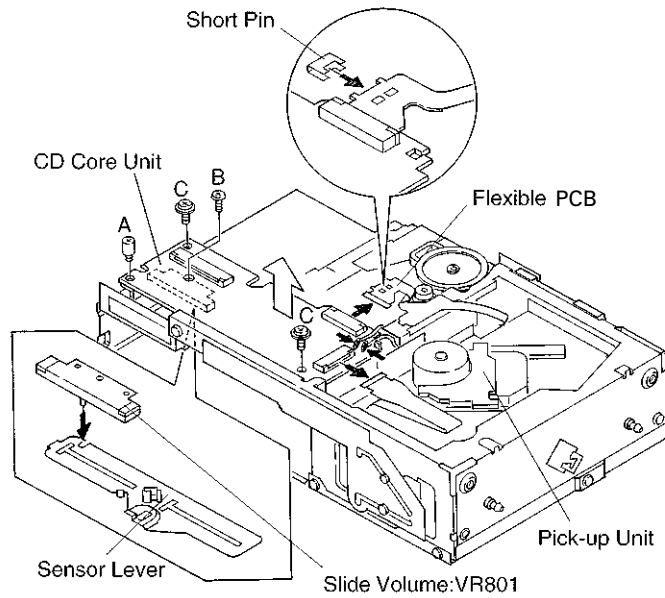

Fig. 5
1. Attach the Short Pin onto the Flexible PCB of the Pick-up Unit. (Fig.5)